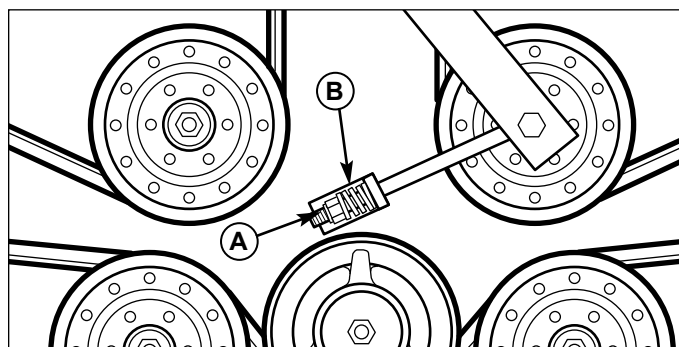

Figure 20. PTO Mower Drive Belt
1. Raise the floor pan and loosen the spring compression nut (A, Figure 20) to release the belt tension.
2. Reinstall the mower deck drive belt on the new spindle pulley. Tighten the spring compression nut (A, Figure 20) until the idler spring (B, Figure 20) is 1-1/2" long. Be sure the measure the spring only.